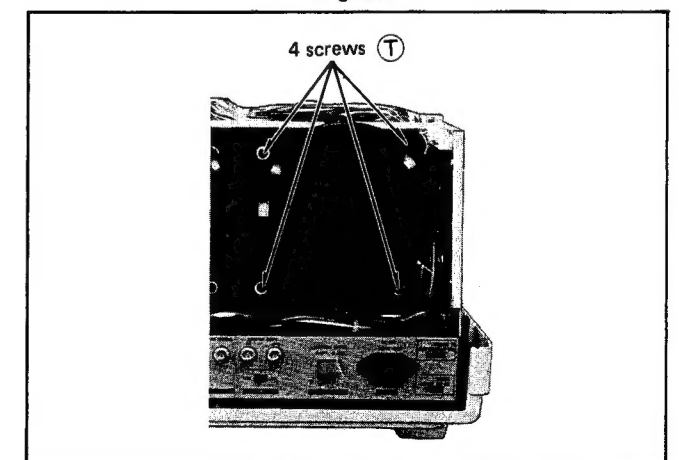

Fig. 14
- 8) Remove the 4 retaining screws (T) from the tube and draw it out shown in fig. 14.